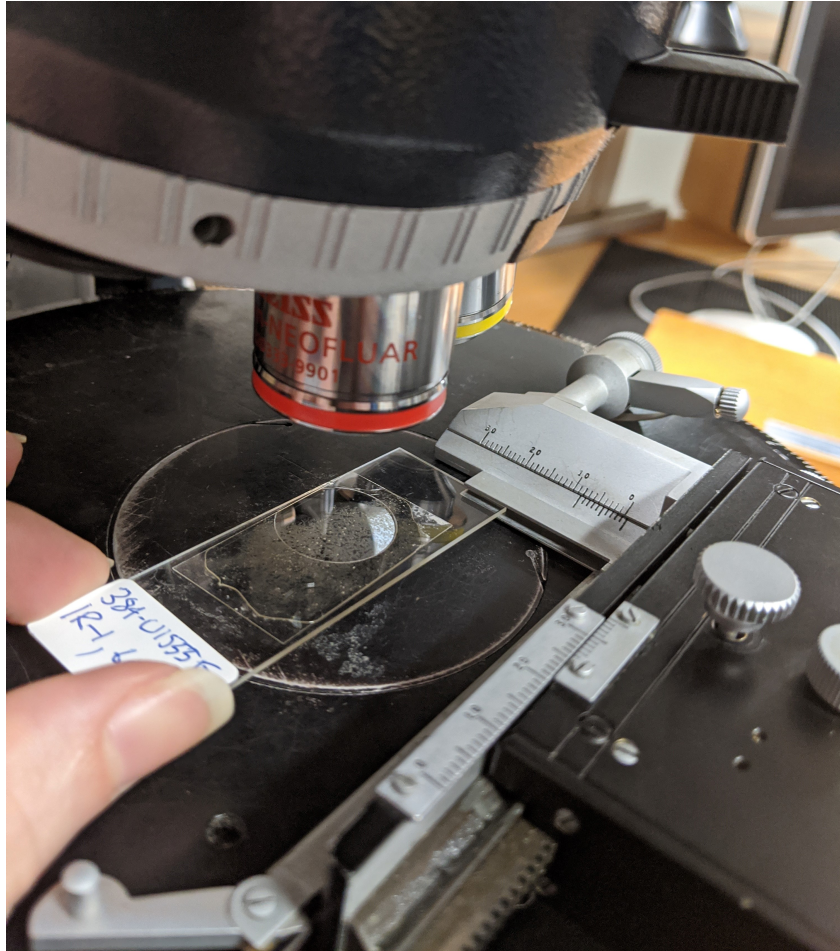

Figure 11: Slide being placed in the sample holder.
1. Place slide in the holder by sliding the sample in the vertical groove (Figure 11).